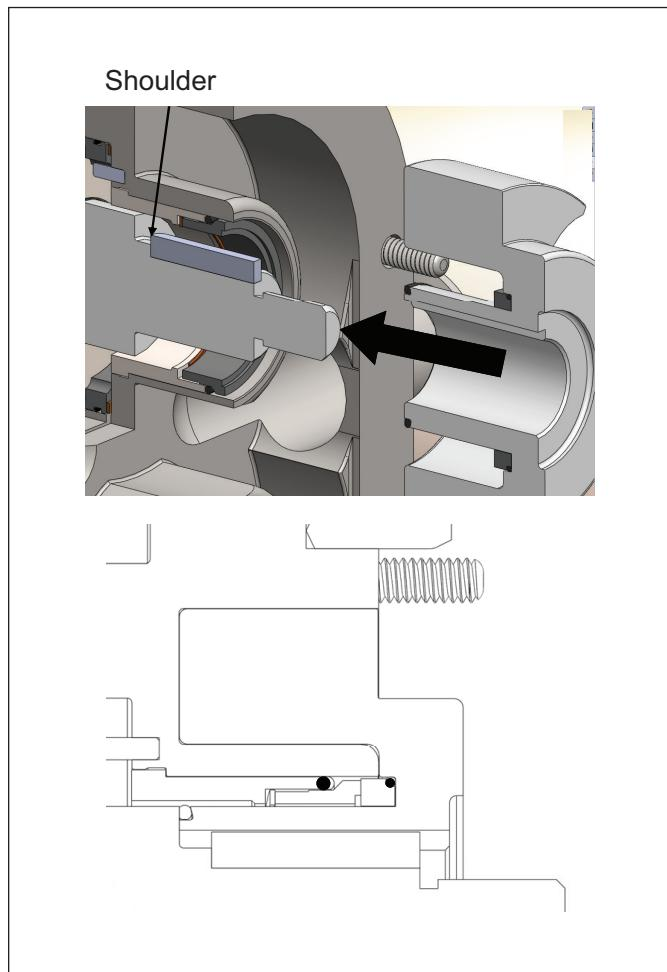

Figure 31. Rotor Assembly
5. Insert a rotor key in the keyway on the shaft. Slide the rotors onto the shafts until they seat against the shaft shoulder (*Figure 31*).